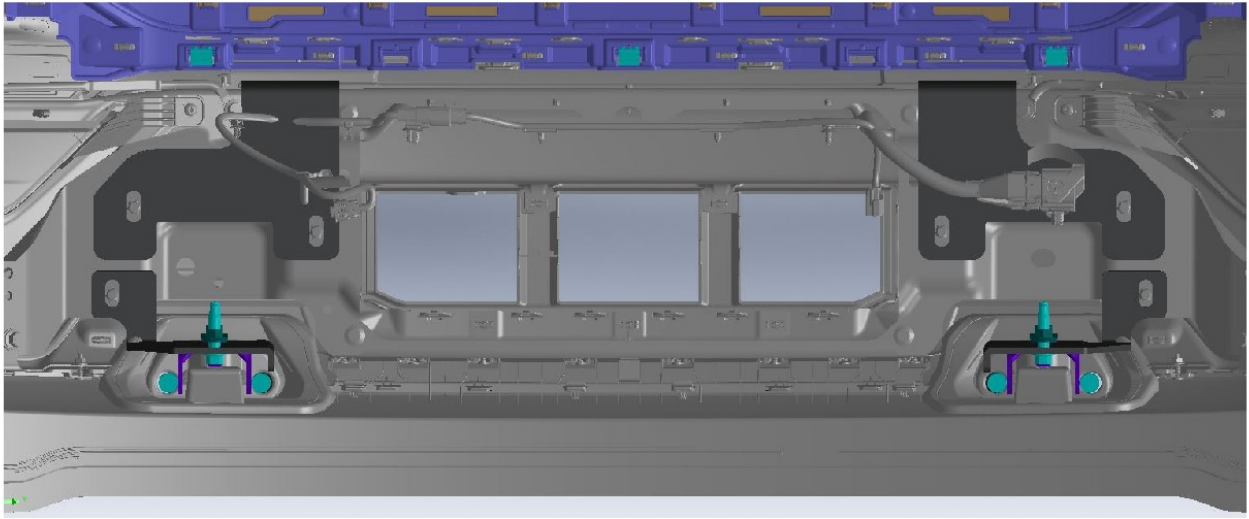

Fig. 3
3. Place Upper Inner Brackets on bumper as shown in Fig. 3 with slot aligned with the upper (2) studs. Use provided retaining rings to hold brackets in place. Re-install bumper cover.